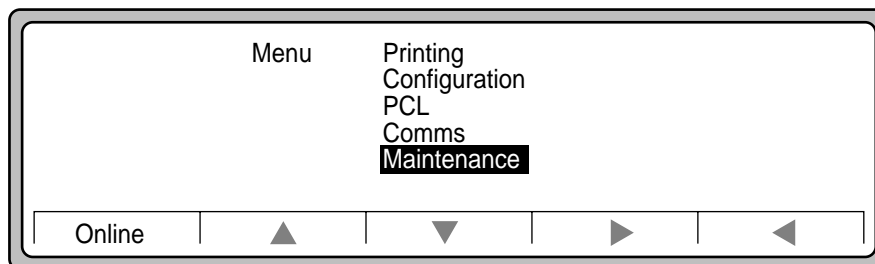

Figure A-2 Menu Submenu
2. Press the **Down Arrow** button to highlight **Maintenance**. Press the **Right Arrow** button. See Figure A-2.